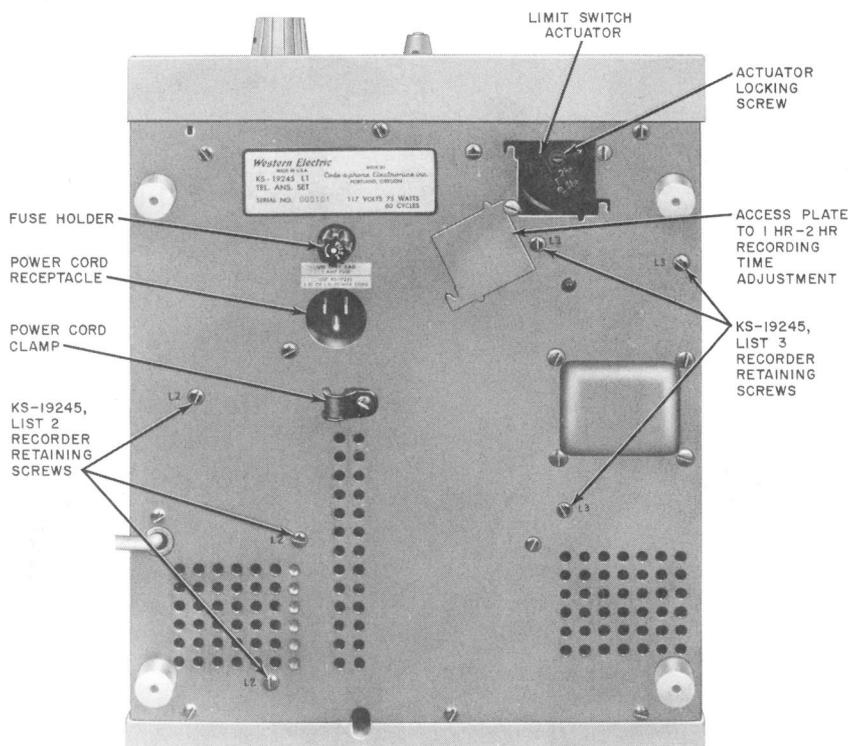

Fig. 2—KS-19245, List 1 Telephone Answering Set, Bottom View
- (a) Remove three retaining screws located on bottom of set (Fig. 2).
- (4) Remove three retaining screws (Fig. 2) located on the bottom of the set.
- (3) Remove access cover (Fig. 2).
- (4) Adjust limit switch actuator (Fig. 2):
- (5) Replace access cover.